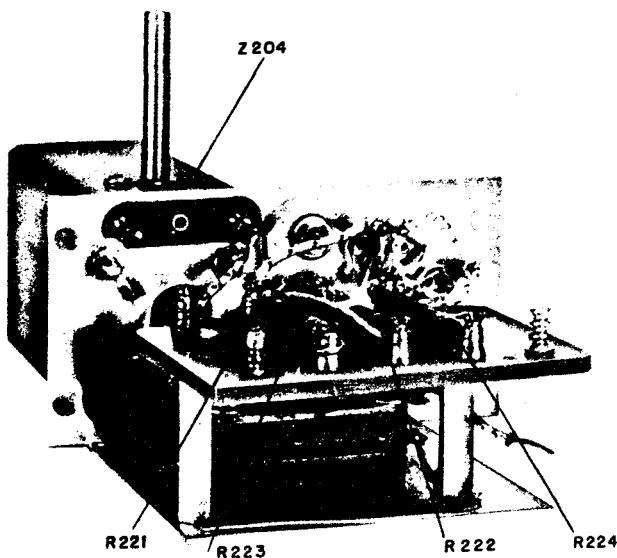

Figure 2-17 BFO Assembly, Bottom View
e. DETECTOR-BFO. (See figures 2-17, 2-22.)—A duplex-diode high-mu triode type 12SQ7 is employed as a combination detector and beat-frequency oscillator V206. The diode plates of this tube are connected together and coupled to the output of the second i-f amplifier by the transformer Z203.